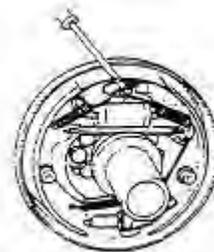

figure 2-17
(2) Disassemble the the reverse spring on brake shoe. See figure 2-17